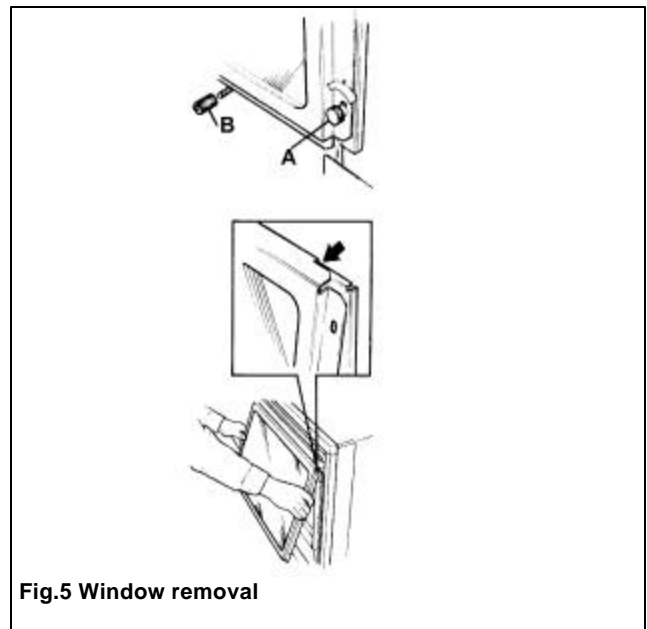

Fig.5 Window removal
6.1 Remove the window & logs (see figure 5)